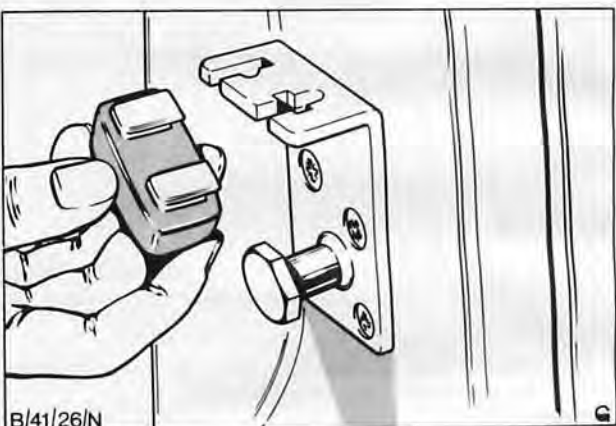

Fig. 24. Pull striker plate rubber from its location
- 1. Prise rubber clear of retaining lugs on striker plate, Fig. 24.